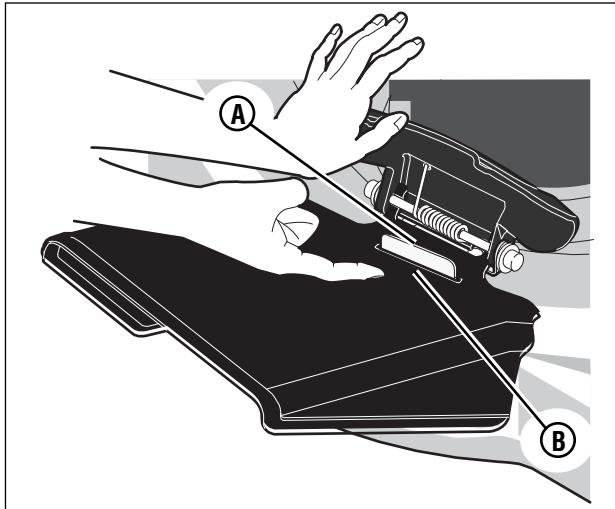

Figure 9: Deflector locking tab
2. Install the deflector (B) to the deck under the recycling cover, making sure that:
- The tabs (C) hook under the pivot rod (D).
- The locking tab on the deck (A, Figure 9) goes through the slot in the deflector (B).